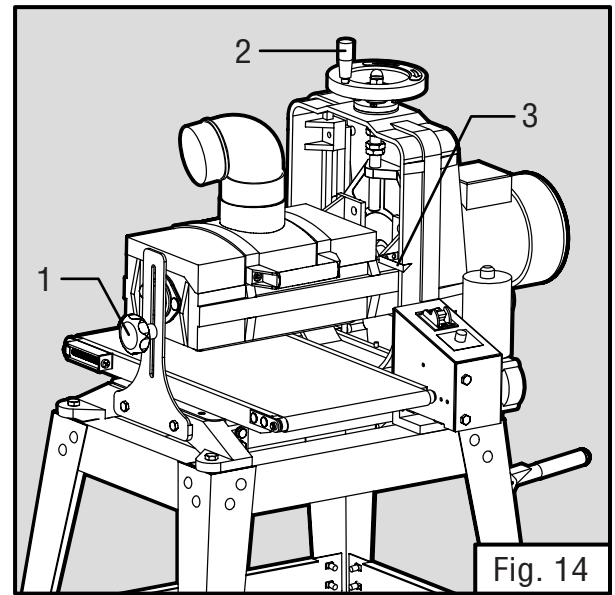

Fig. 14
## ADJUSTING THE DEPTH OF CUT (FIG. 14)
The depth of cut can be adjusted by rotating the height adjustment wheel (Fig. 14 - 2). Rotating the handwheel 1/4 turn adjusts the depth of cut by 1/32 inch. Generally, a 1/4 turn of the handwheel (1/32" depth of cut) per pass is acceptable for coarser grits or softer woods. A 1/8 turn of the handwheel (1/64" depth of cut) is recommended for finer grits or harder woods.
1. Loosen the elevation lock knob (Fig. 14 - 1).
2. Rotate the height adjustment wheel (Fig. 14 - 2). Rotating the handwheel clockwise raises the sanding drum and rotating the handwheel counterclockwise lowers the sanding drum. A 1/4 turn adjusts the depth of cut by 1/32".
3. Use the depth pointer (Fig. 14 - 3) to check the cutting depth. When the proper depth of cut has been set, firmly tighten the lock knob to secure the sanding drum in place.
4. Loosen the height lock knob (Fig. 14 - 1) and turn the height adjustment wheel (Fig. 14 - 2) to lower the sanding drum until it lands on the top surface of the workpiece. This will allow the sander to take off just the top surface of the workpiece with the first pass. Remove the workpiece from the conveyor belt and set it aside.